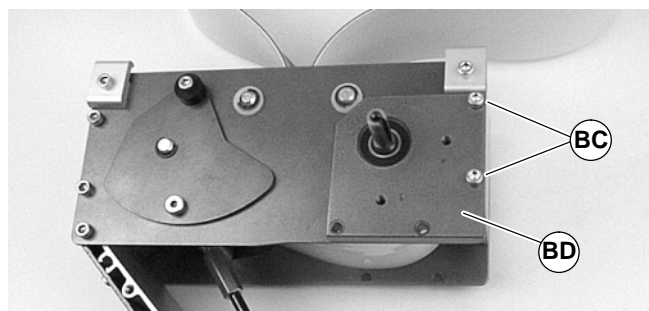
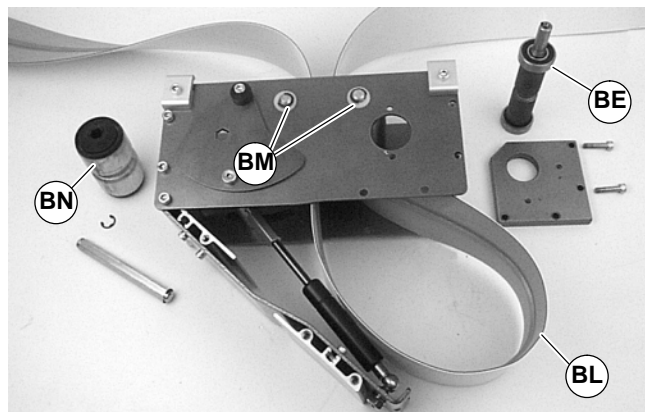

Figure 27
Figure 33
1. Remove drive plate screws (BC of Figure 27). Remove the tension drive plate (BD).
2. Place loop of belt (BL of Figure 33) into the drive module between top idler pulleys (BM).
3. Place grooved idler pulley (BN of Figure 33) into the belt loop and install it in the drive module. Refer to "Belt Removal from Drive Module" on page 12 and reverse step 3.
4. Place drive pulley (BE of Figure 33) into the belt loop and install it in the drive module. Refer to "Belt Removal from Drive Module" on page 12 and reverse steps 1 and 2. Tighten screws (BC of Figure 27) to 9 Nm.